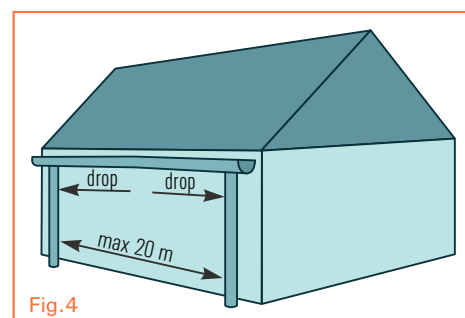

Fig.4
b. Roof slope of 100 - 150 m² (Fig. 4) - install two drains. The drop must start at an equal distance between the two drains and proceed towards them (the distance between successive drains can not be greater than 20 m).